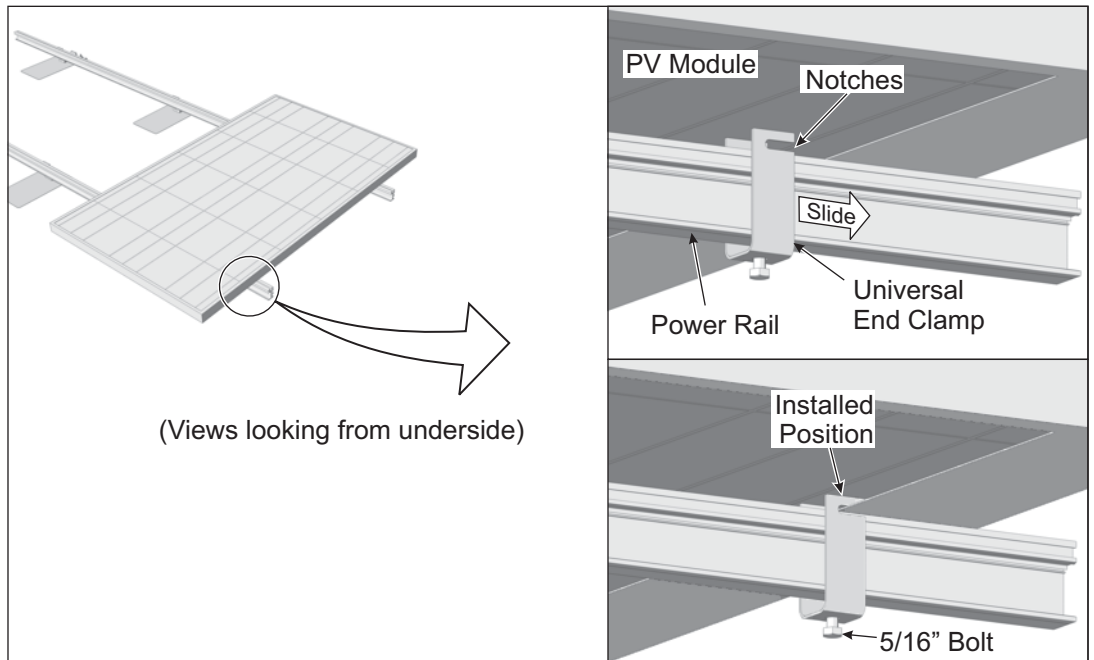

Figure 3-1: Installing PV Modules using Universal End Clamp
- B1. For use with "**Universal End Clamps**": Position Universal Clamp underneath module with notches facing the outside edge of the module, and rail centered between 'forks' of the clamp. Slide clamp notches towards module flange until the flange bottoms out in the notches. Tighten 5/16" bolt on bottom of universal end clamp. **Torque to 14-16 ft.-lbs.** Repeat for both end clamps. (See Figure 3-1)